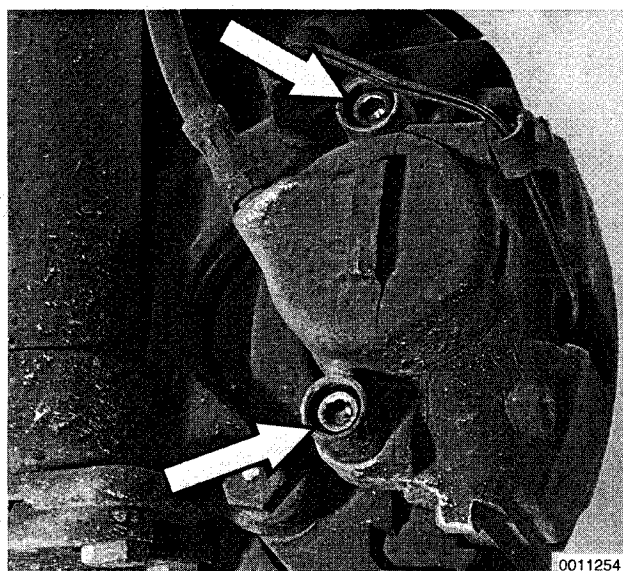

**Fig. 3.** Brake caliper guide bolts (arrows).
2. Remove plastic caps from guide bolts and then remove guide bolts. See Fig. 3.